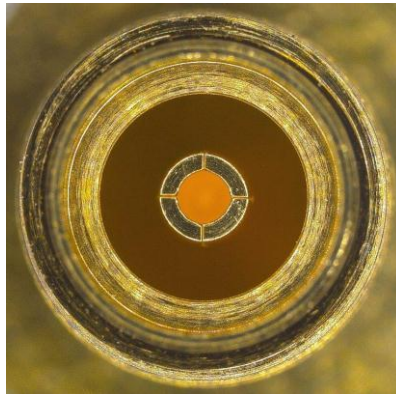

Figure 10 – Good condition 3.5mm female
- The contacts within the female socket are high precision and must be treated with great care. Check that all contacts are present, uniformly aligned and undamaged as shown in Figure 10.